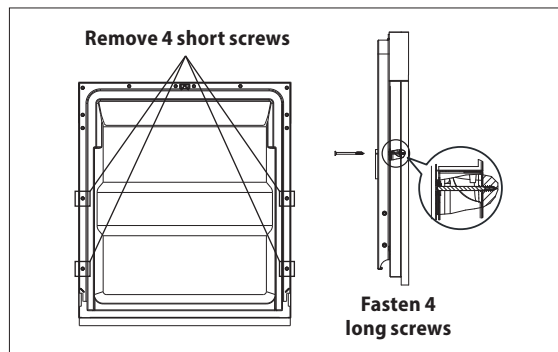

Fig. 16b
- Fasten the cover plate using the screws (Fig. 16b).
- Unscrew the four short screws from the inner side of the door (Fig. 16b).
- Screw the four long screws instead of the short ones. Now the cover plate is fastened to the appliance door (Fig. 16b).